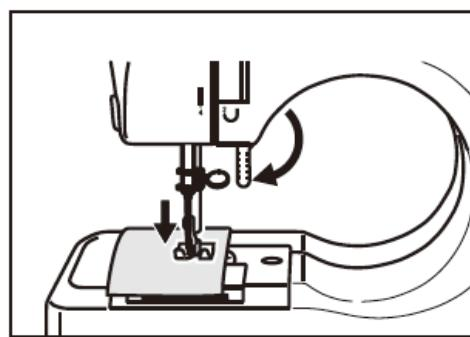

Fig.12
3. Lower the presser foot. (Fig.12).